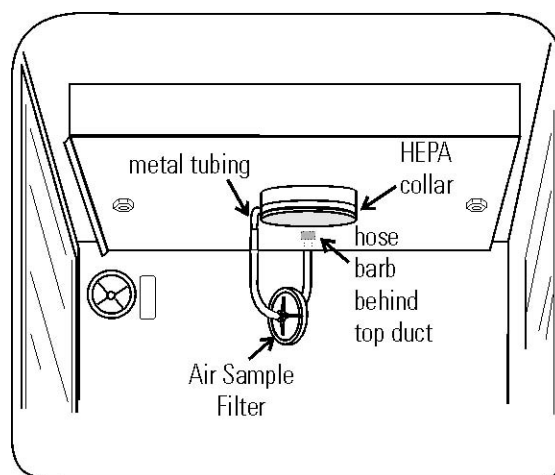

Figure 1-18. Air Sample Filter Installation
2. Insert the other end of the filter assembly onto the metal tubing on the top duct. Refer to Figure 1-18.